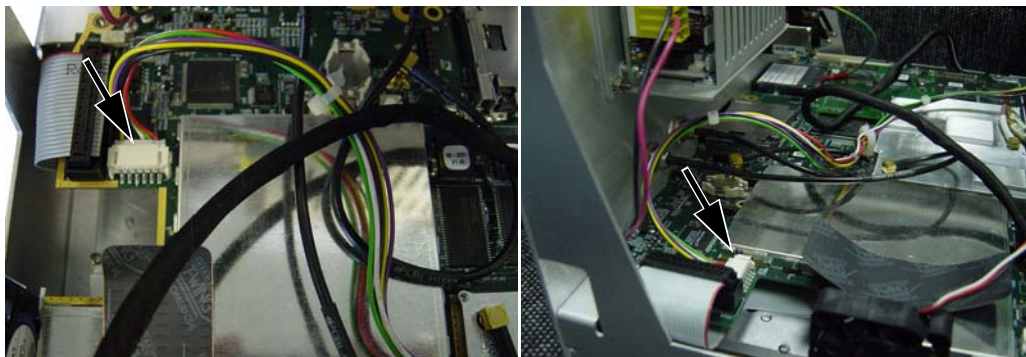

Figure 5-36. Rotary Knob Connector J5010 at Main PCB
2. Unplug the ribbon cable from the SPA PCB to the keypad (at the keypad), and unplug the rotary knob cable at connector J5010 of the main PCB (near the fan, refer to Figure 5-36).
Disconnect the end at the left-rear corner of the Main PCB at J5010 (Refer to Figure 5-36).